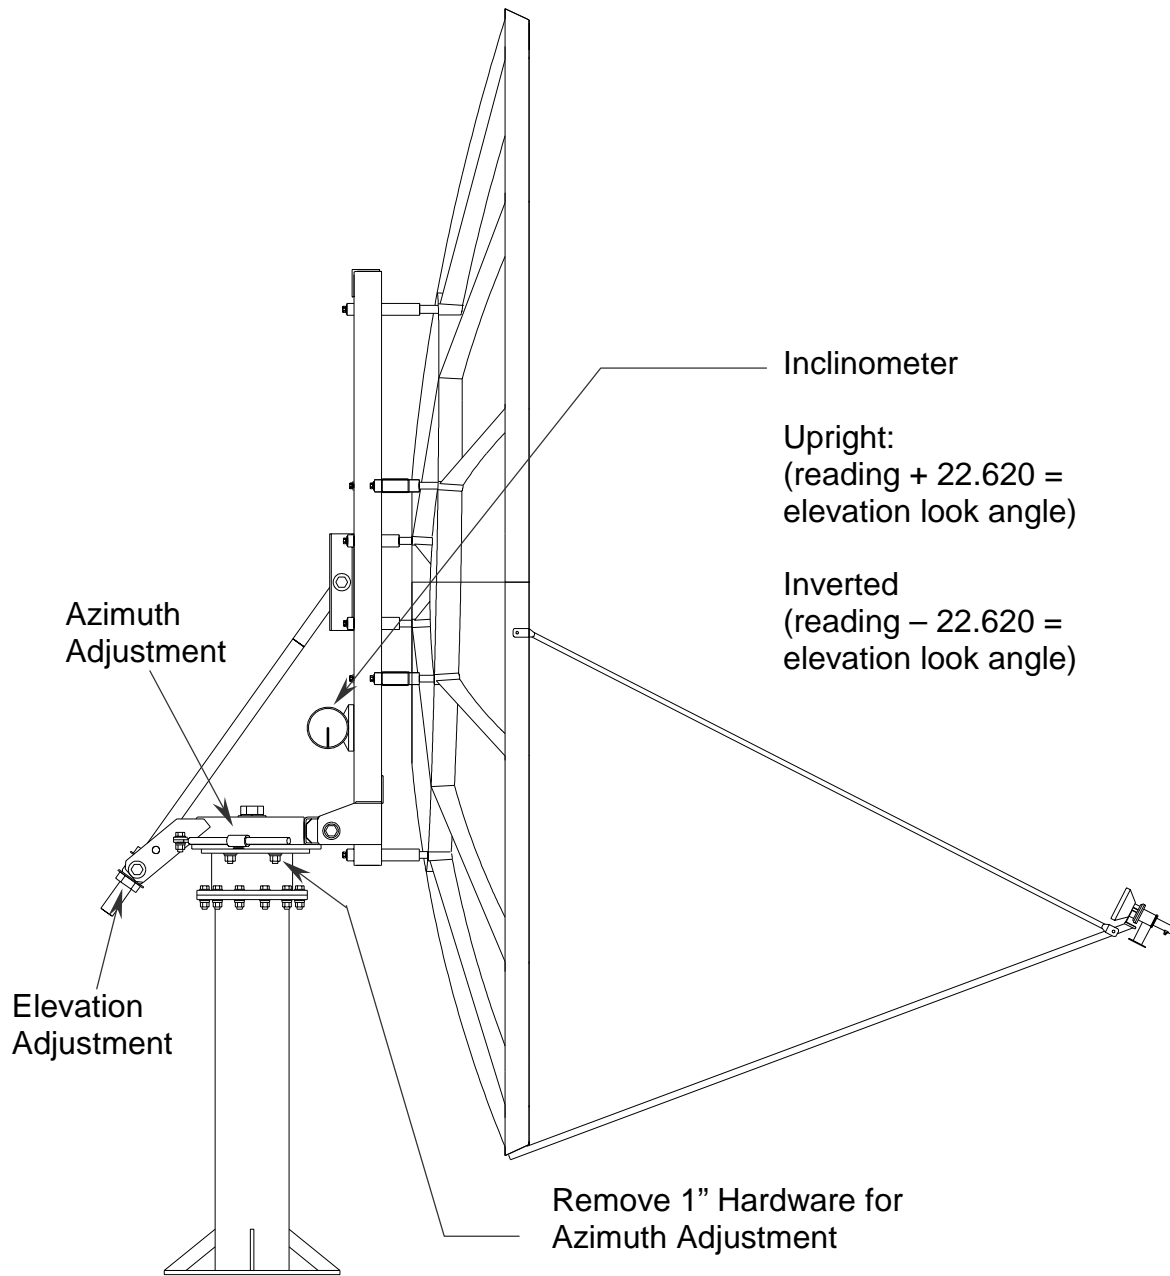

Figure 10
2. After the correct elevation angle is set, rotate the antenna in azimuth by loosening the 2" nut on top of the positioner and removing the 1" hardware (4 places) in the positioner plate, refer to figure 10.